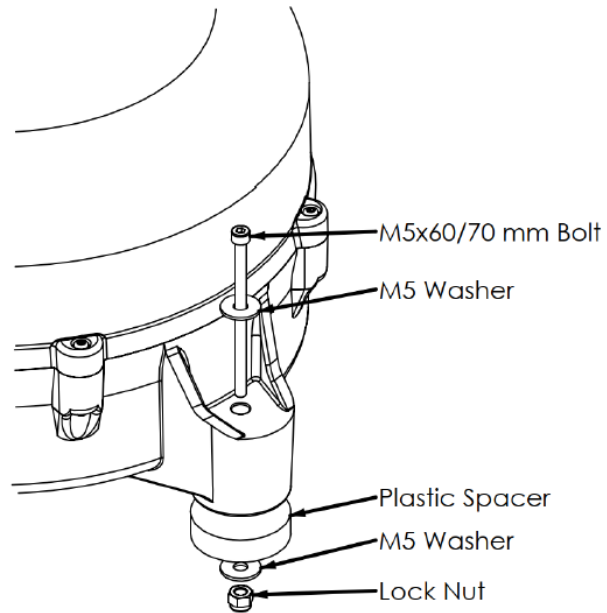

Figure 7. 9410 mounting hardware
3. In order to fulfill the criteria 1 and 2 above, use the supplied set of mounting hardware as shown in Figure 7.